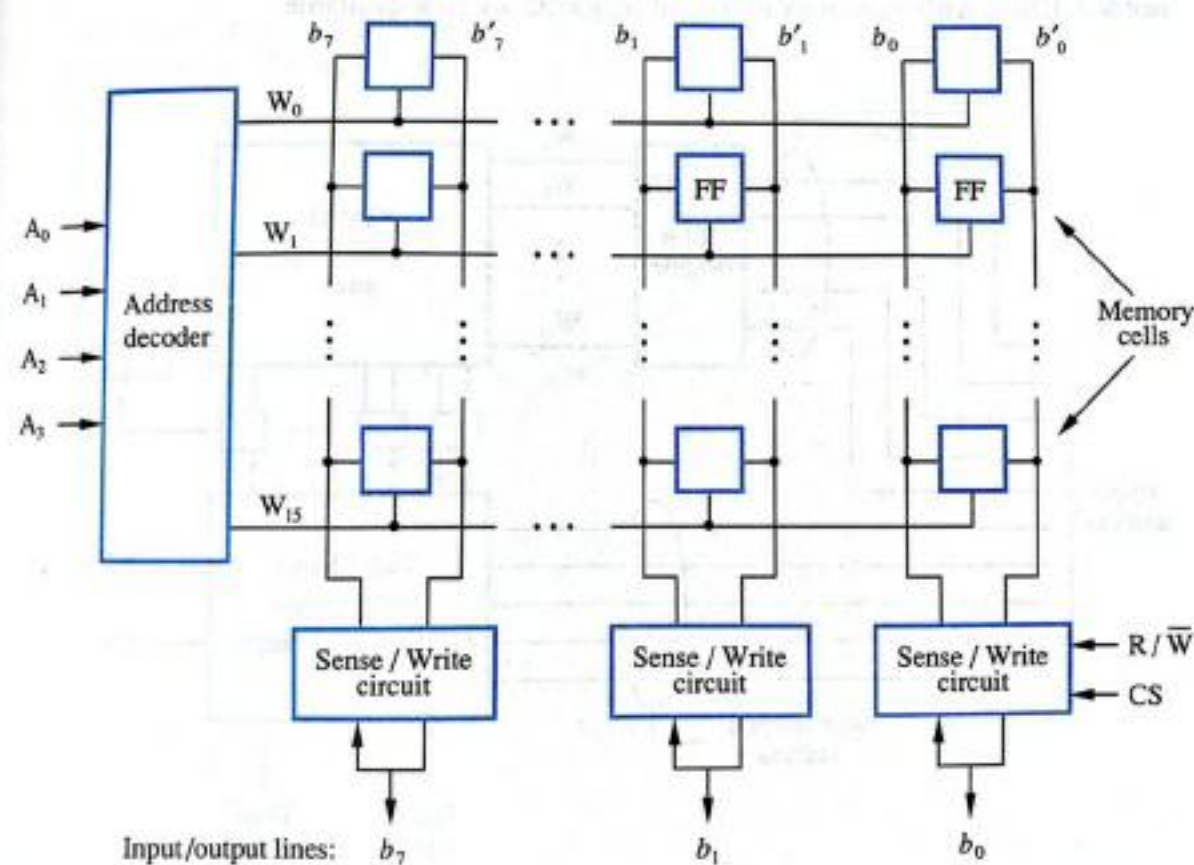

FIGURE 5.3
- The memory circuit in Figure 5.3 stores 128 bits and requires **14 external connections** for **address (4)**, **data (8)**, and **control lines (2)**. It also needs two lines for power supply and ground connections.
- Consider now a slightly larger memory circuit, one that has 1K (1024) memory cells. This circuit can be organized as a **128 × 8 memory**, requiring a total of **19 external connections**, address (7), data (8), control lines (2) and power supply ground (2).